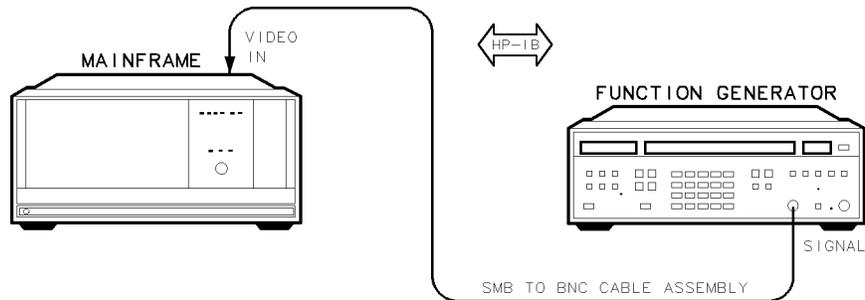

Figure 7-23. Video Bandwidth Test Setup
1. Connect the HP 3325B synthesized function/sweep generator's SIGNAL output to the DUT's VIDEO IN using the SMB-to-BNC cable assembly, as shown in Figure 7-23.